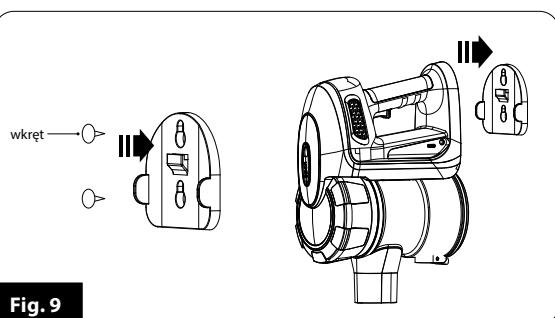

Fig.9
3. Place the bracket (24) in the desired location on the wall, furniture, etc. and mark with a pencil the locations for the screws supplied with the vacuum cleaner.
4. Tighten the screws (fig.9) but do not tighten them completely so that the handle can be put on easily.